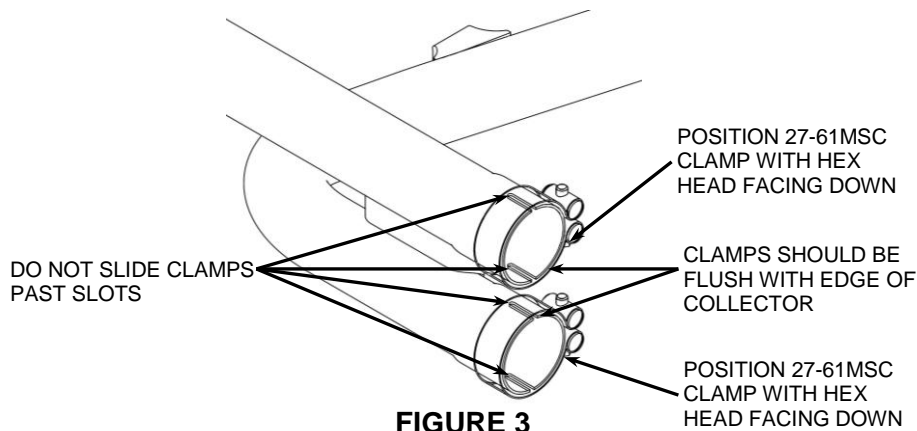

FIGURE 3
10. Position 2 of the supplied #27-61 MSC muffler clamps onto the crossover assembly inlets. The hex head of both clamps should be inward and down. See **FIGURE 3**. (NOTE: The clamps should be flush with the end of the crossover assembly inlets when tightened. See **FIGURE 3**. If the clamps are slid past the slots on the crossover assembly inlet the clamps will not tighten properly).
17. Next fully tighten the (2) 27-61MSC clamps on the crossover assembly. (NOTE: The clamps should be flush with the end of the crossover assembly inlets when tightened. See **FIGURE 3**. If the clamps are slid past the slots on the crossover assembly inlet the clamps will not tighten properly).